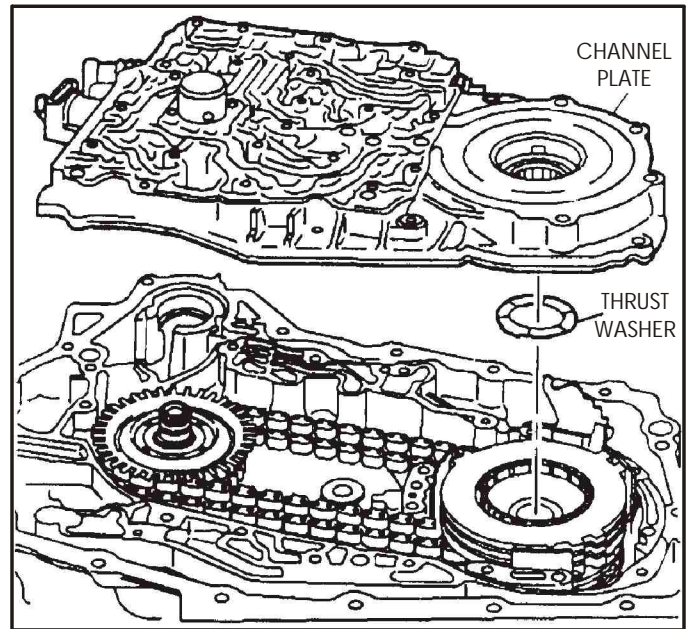

Figure 63
2. Remove the channel plate from the transaxle case, as shown in Figure 63.
3. Remove the channel plate to 4th clutch hub thrust washer (See Figure 63).